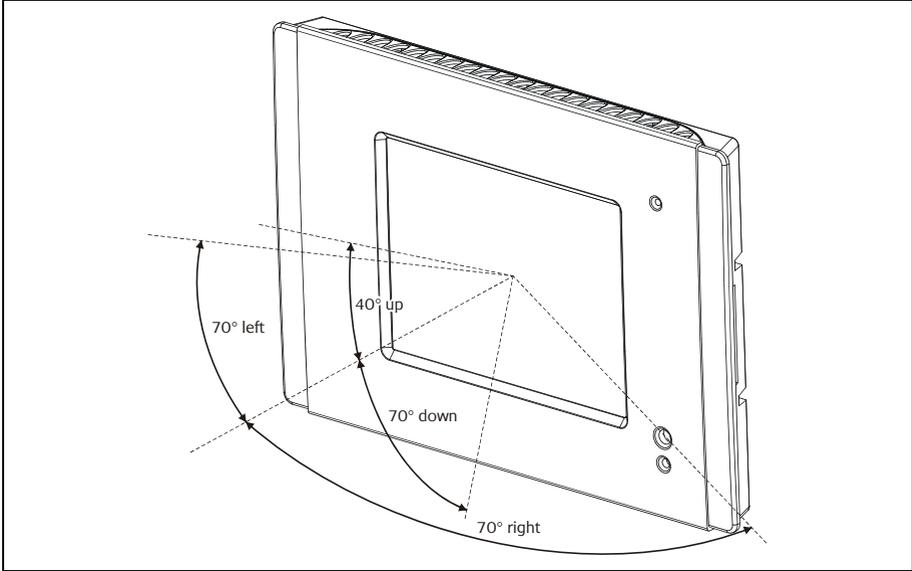

Figure 3 – Consider the C-Touch Colour's viewing angle when mounting the unit
- The unit has a typical viewing angle of 70° to the left, right and down, and 40° up (illustrated in Figure 3). Take this into account when choosing the mounting height.